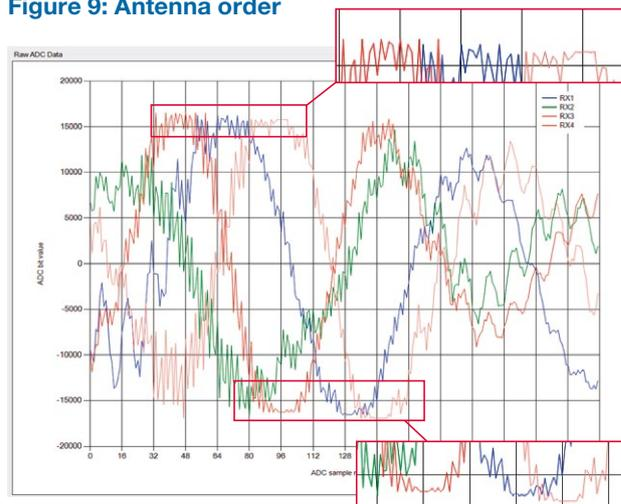

Figure 10: Clipping ADC signals
- The RADC data must be checked for clipping, marked in Figure 10. The maximum ADC value for the MR3003\_RD is  $\pm 2^{14} = \pm 16384$ . Decrease until any clipping signals have been eliminated.